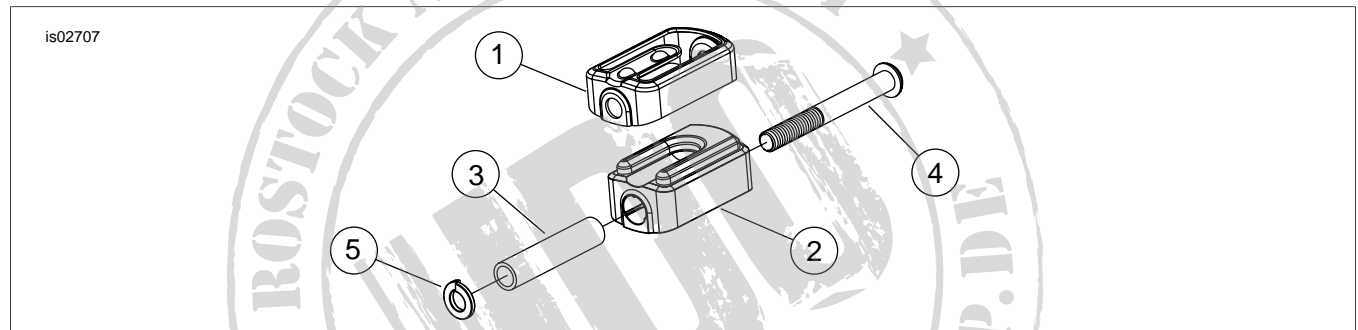

Figure 1. Service Parts: Ironside Shifter Peg Kit
See Figure 1 and Table 1.
2. See Figure 1. Insert the screw (4) through the peg (1), tread (2), spacer (3), and lockwasher (5) into the shift lever. Tighten the screw to 11-15 ft-lbs (15-20 Nm).